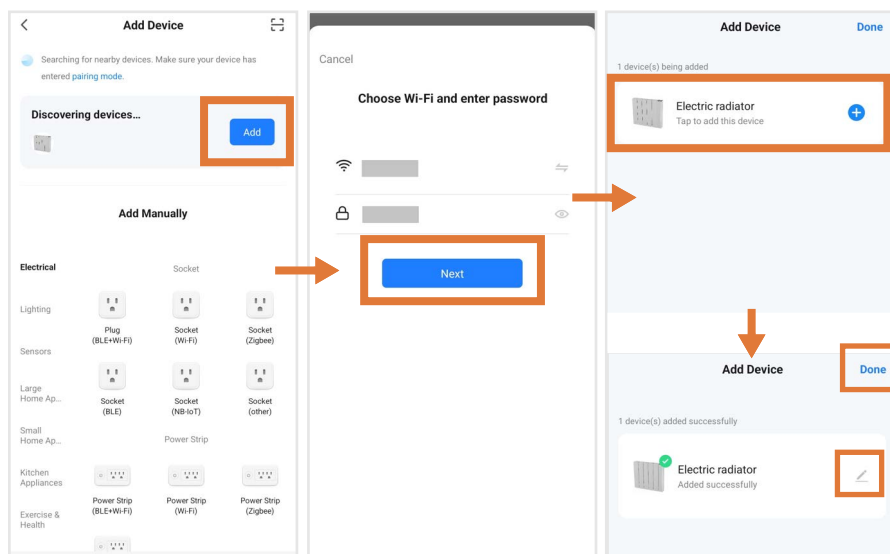

Figure 15 | Finding and pairing device on Smart Life
5. The app will demonstrate that it has found the radiator (**Figure 15**, page 37).
9. The radiator will begin connecting. When it has been paired successfully, the radiator will appear on the app. (**Figure 15**, page 37)